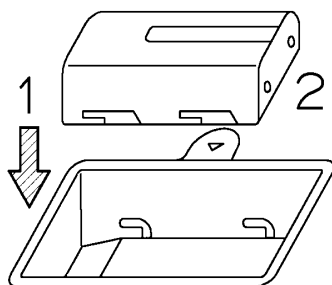

Figure 3-2 Mounting the battery pack
a) Mounting the battery pack (See Figure 3-2.)